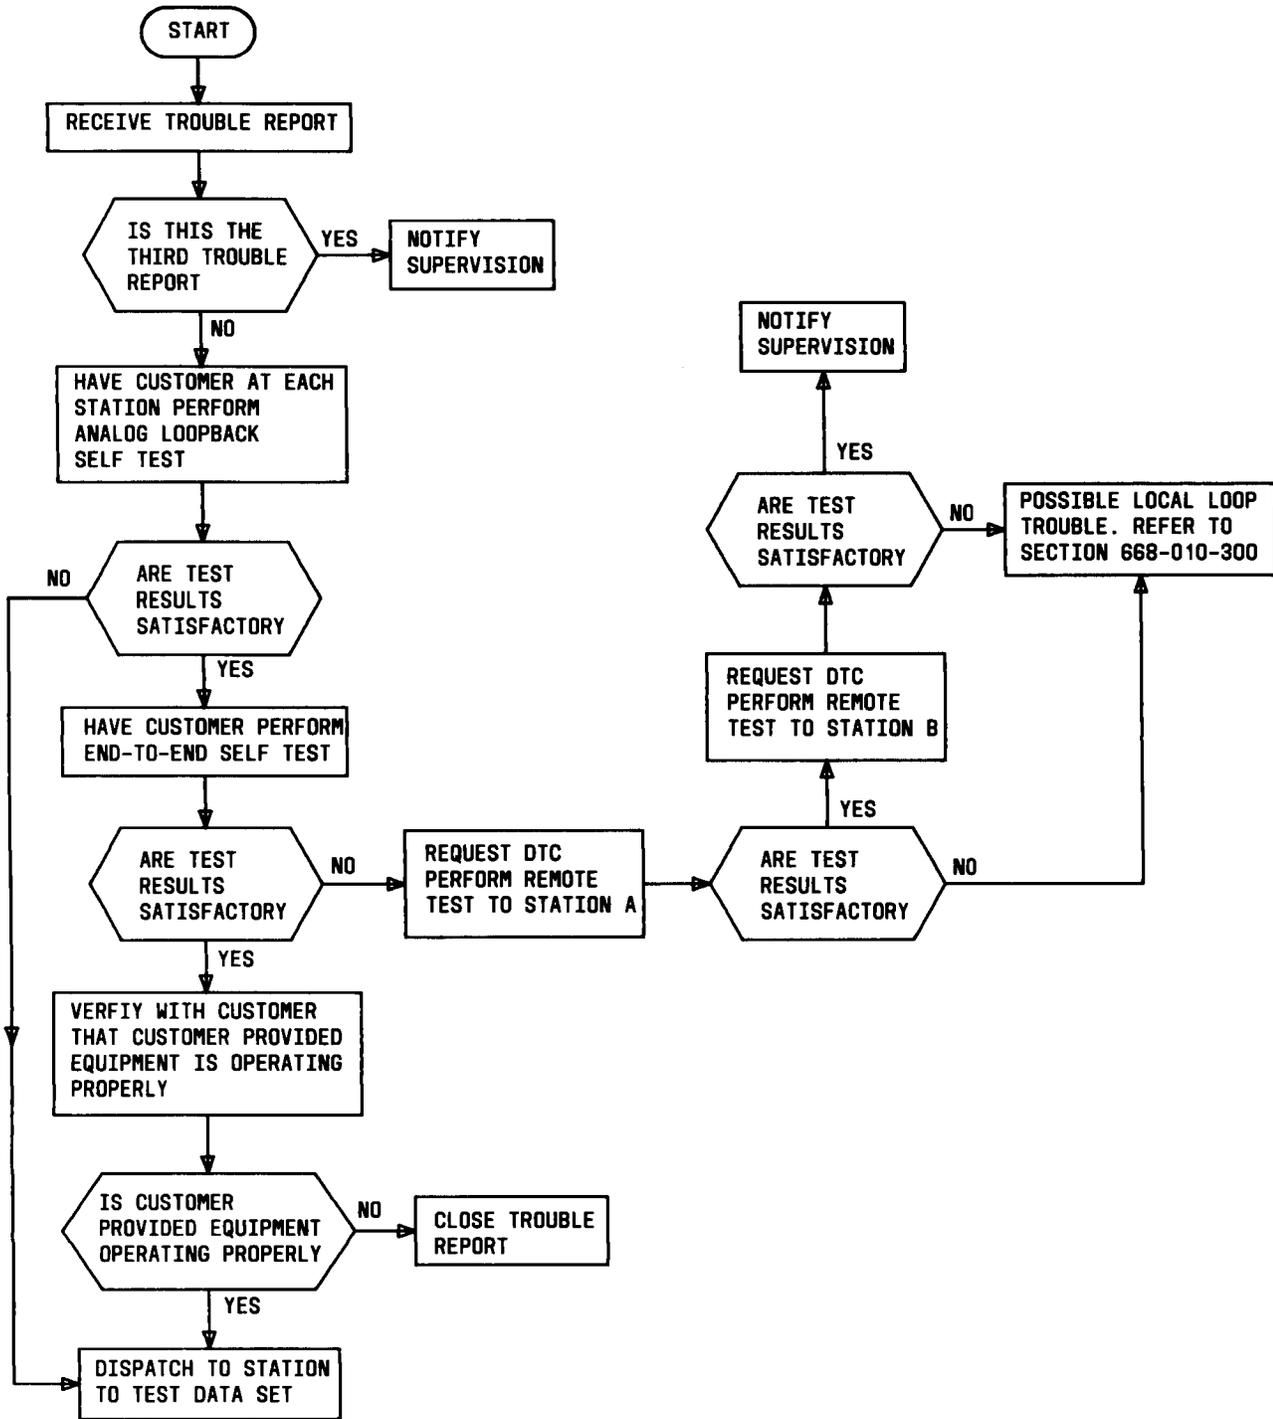

Fig. 3—Clearing Trouble Report
3.02 When a trouble report is received, the DTC is responsible for isolating the trouble to the data set or transmission facility. The procedure for doing this is shown in Fig. 3.